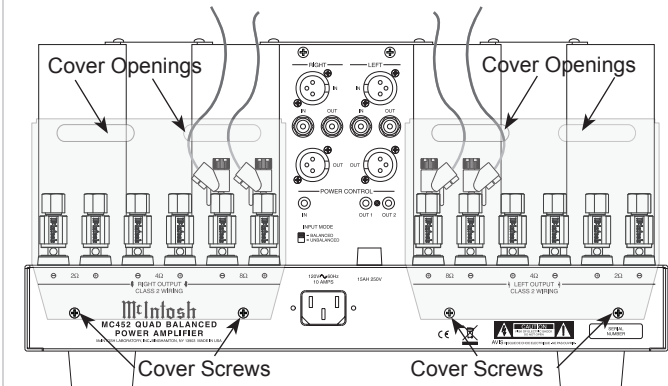

Figure 5 (Inside USA and Canada)
7. Locate the Terminal Connections Covers from the inside of the MC452 shipping carton. Insert the just prepared Loudspeaker hookup cables thru the cover openings, one cover for each channel. Refer to figure 5.
Note: The illustration in Figure 5 is connections for 8Ω (ohms) Loudspeakers.
10. Attach the Terminal Connections Covers to the MC452 Rear Panel with the previously removed Screws. Refer to figure 5.